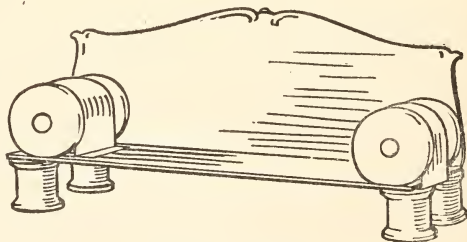

FIG. 318. — Sofa.
**A Sofa** with arm rolls, like that shown in Fig. 318, is a good example of what can be made in spool-and-cardboard doll furniture. Prepare the seat and back out of a single piece of cardboard, curving the top and ends of the back as shown, and making the width of the seat the same as the length of the spool arms. Fasten the spools by means of a strip